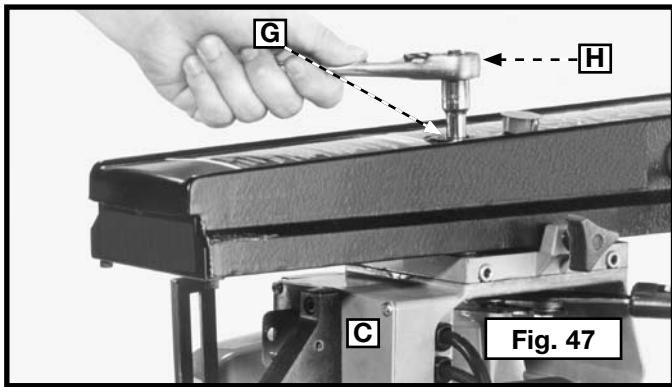

Fig. 47
3. Use a 1/2" socket, extension, and ratchet (H) Fig. 47 through the hole (G) in the track arm to slightly loosen the hex nut on the adjustable shaft (G) Fig. 47 approximately 1/8 turn. Repeat the procedure for the other bearing.